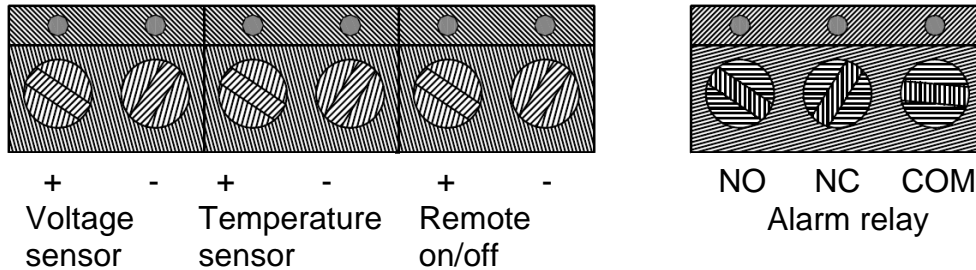

Figure 5 Connector block
2.3.1. External voltage sensor (see fig 5)
2.3.2. External temperature sensor (see fig 5)
2.3.3. Remote on/off (see fig 5)
2.3.4. Alarm relay connections (see fig 5)